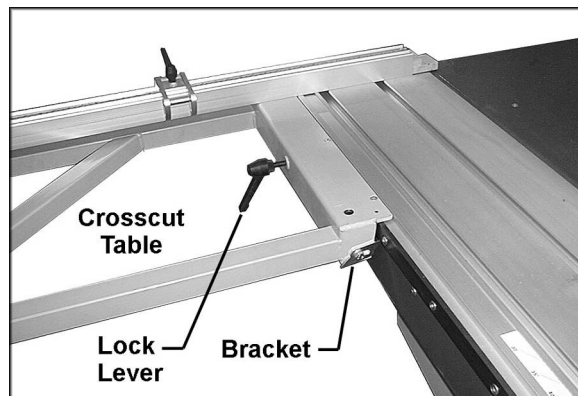

Figure 7
1. Slide the crosscut table (Figure 7) onto the sliding table from the left end. The rod protruding up from the support arm should slip into the hole on the bottom of the crosscut table.
2. Position the two brackets (Figure 7) so that the crosscut table will easily ride along the flat bar on the front edge of the sliding table.